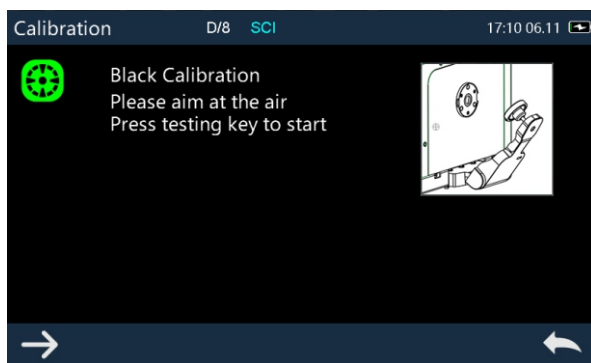

Figure 5 Reflective Black Calibration Interface
3. Click → to enter Reflective Black Calibration interface as shown in Figure 5. According to the instructions, put the measuring aperture against the blank (Type C instrument, put the reflective black trap on the ring testing plate, press down the handle, so that the measuring aperture and the black trap fit closely. the black trap can also be held by hand so that make them close to better. then press the test key to start black calibration, or click ↩ to cancel and quit the calibration.